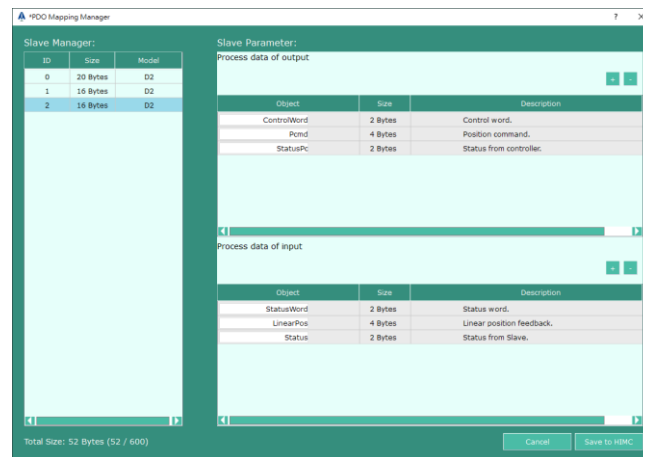

Figure 4.14.1.5 PDO setting of salve ID2
Step 4: Add or delete the PDO objects in the Process data of input, as shown in Figure 4.14.1.6.